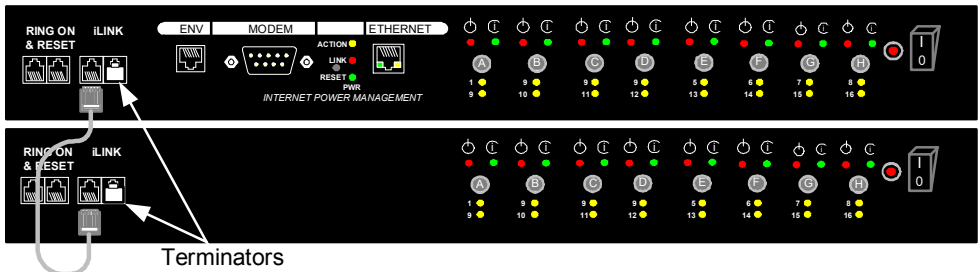

Figure 17 Connecting the iLink cable
3. Connect the iLink cable to the iLINK ports of the 2 units. See Figure 17